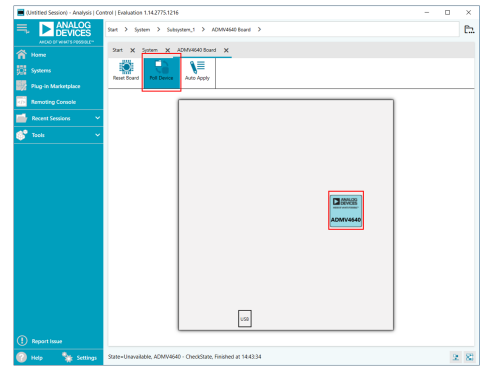

Figure 5. ADMV4640 Board Tab
4. Open the ACE software. The ADMV4640 Board plugin appears in the Attached Hardware section. Double-click the EVAL-ADMV4640Z plugin. The ADMV4640 Board tab opens (see Figure 5).
5. Click off the Poll Device button and double-click the ADMV4640 button (see Figure 5).